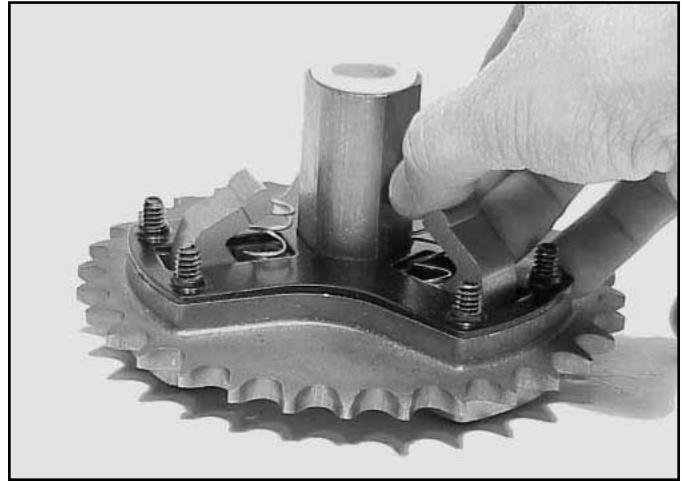

Fig 198
9. Install compression springs under the pawls (Fig. 198).